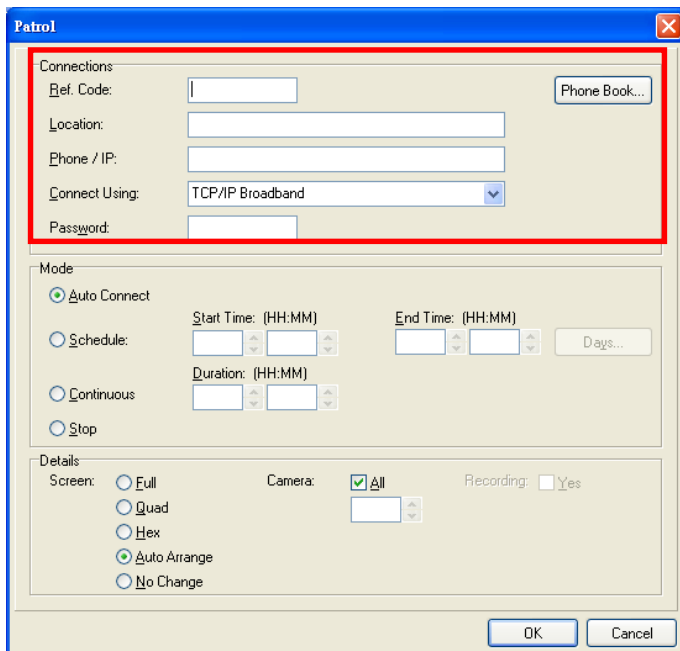

Fig 12.1b
Step 1 : Click **[New]** button on **{Scheduler Option}** panel to pop up **{Patrol}** panel as shown on **Fig 12.1b**.